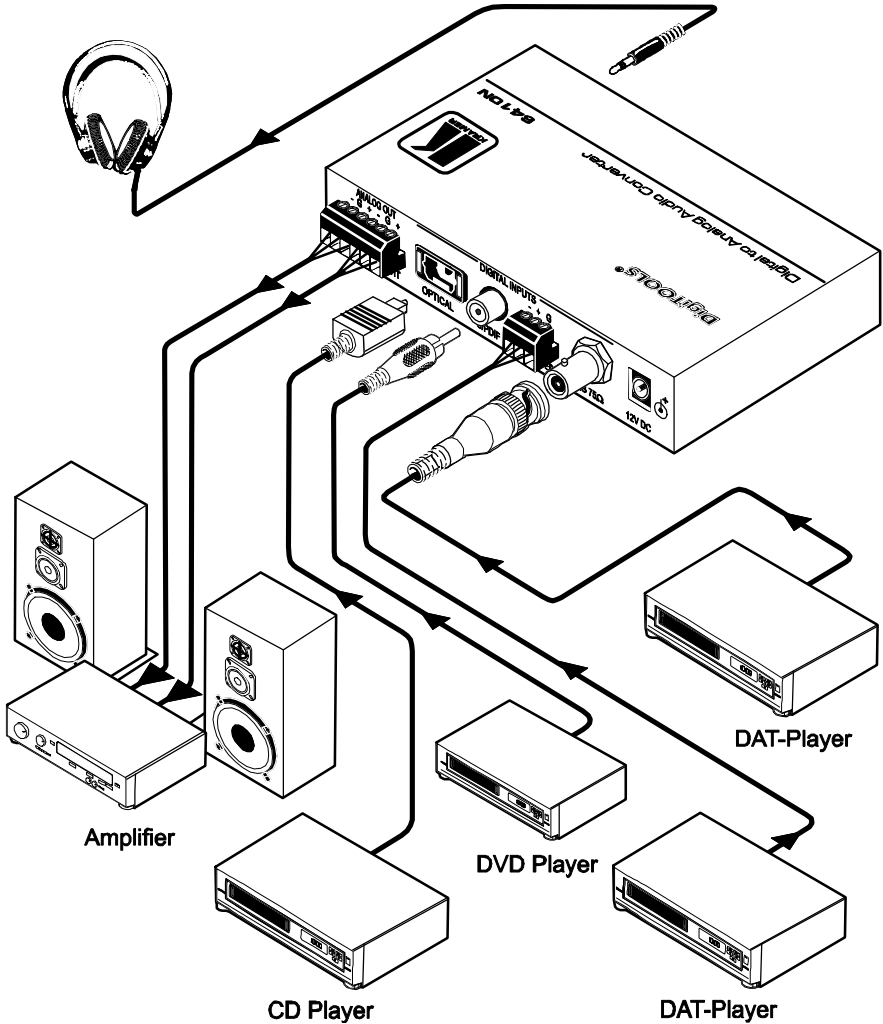

Figure 6: Connecting the 6410N Digital to Analog Audio Converter
To connect your **6410N Digital to Analog Audio Converter**, as illustrated in the example in Figure 6, do the following1:
3. Connect the 12V DC power adapter to the power socket and connect the adapter to the mains electricity (not shown in Figure 6).